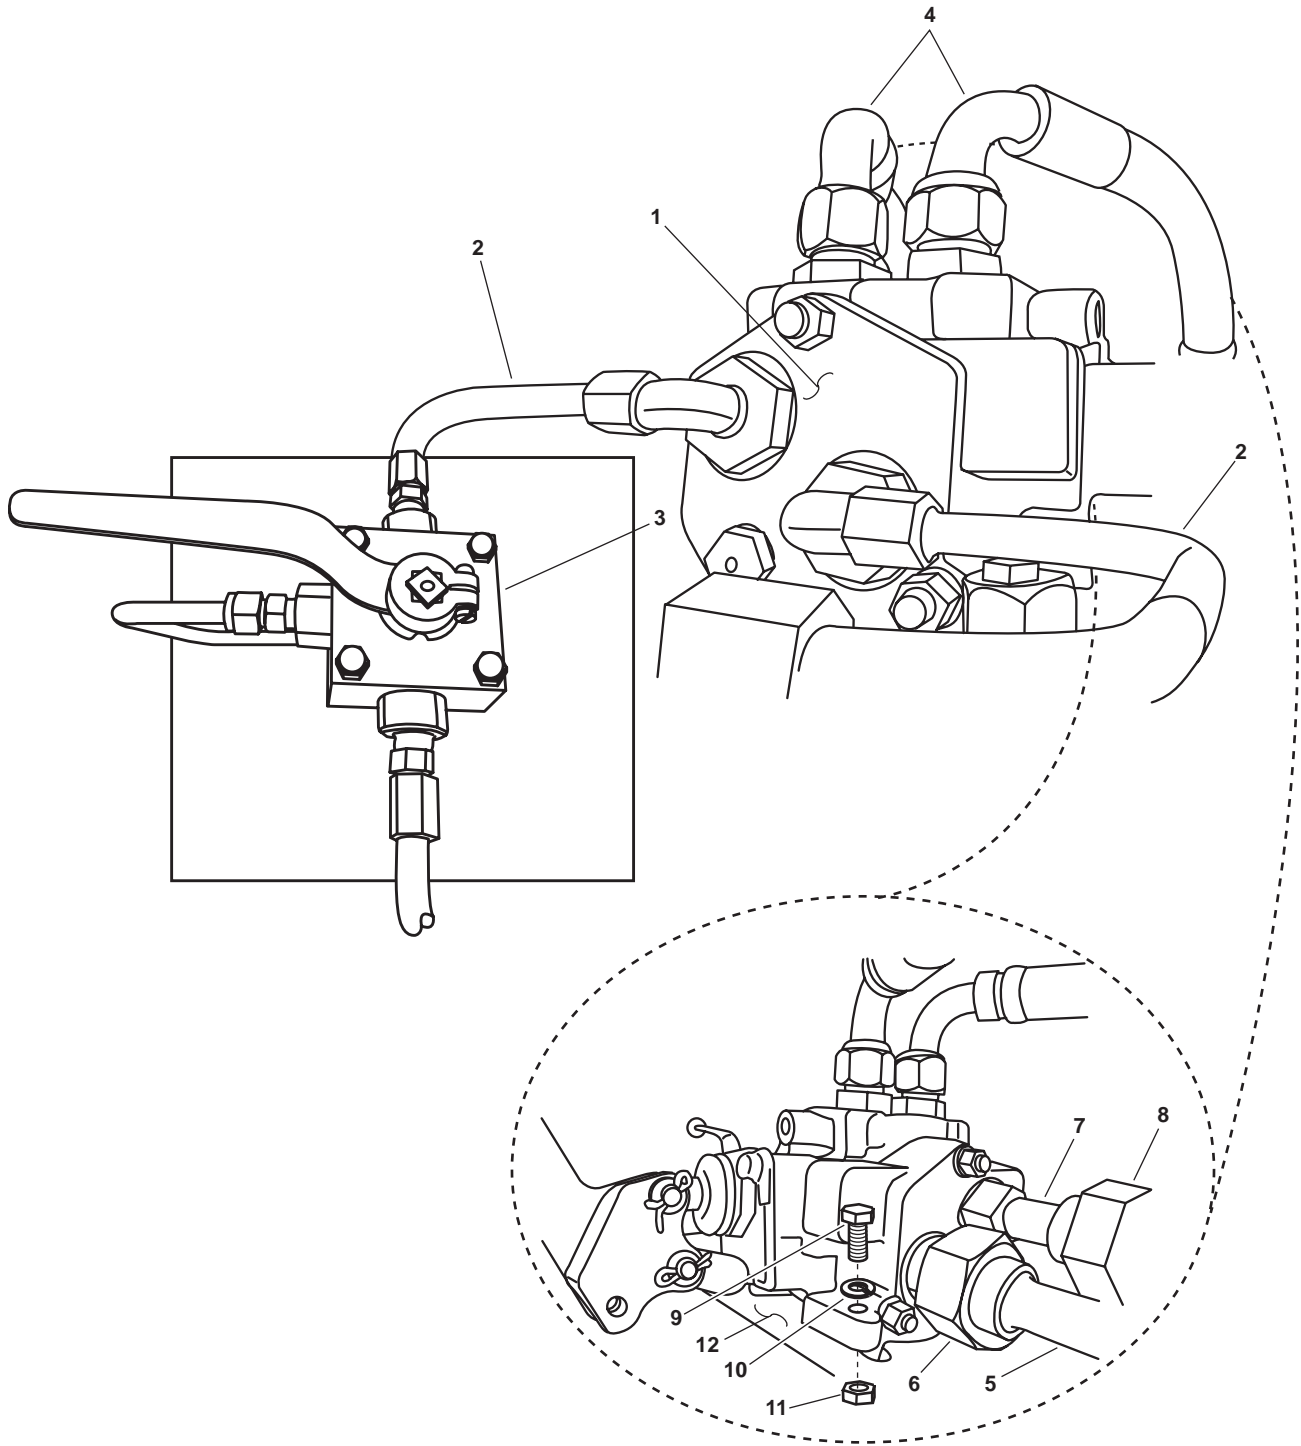

Figure 1. Hydraulic Control Assembly
1. Place a suitable drain pan under the hydraulic control valve assembly (figure 1, item 1).
2. Remove two sections of hydraulic tubing (figure 1, item 2) from the hydraulic control valve assembly (figure 1, item 1), and the 3-way ball valve (figure 1, item 3). Allow any hydraulic fluid to drain into the suitable drain pan.
3. Label and disconnect the two hydraulic hoses (figure 1, item 4) from the top of the hydraulic control valve assembly (figure 1, item 1). Drain any hydraulic fluid into the suitable drain pan.
4. Remove the hydraulic oil supply line (figure 1, item 5) from the hydraulic control valve assembly (figure 1, item 1) at hydraulic oil tubing coupling (figure 1, item 6). Drain any hydraulic fluid into the suitable drain pan.
5. Remove the hydraulic oil return line (figure 1, item 7) from the hydraulic control valve assembly (figure 1, item 1) at the hydraulic oil tubing coupling (figure 1, item 8). Drain any hydraulic fluid into the suitable drain pan.
6. Remove the four bolts (figure 1, item 9), the four lockwashers (figure 1, item 10), and the four nuts (figure 1, item 11) from the hydraulic control valve assembly (figure 1, item 1). Discard the lockwashers.
7. Remove the hydraulic control valve assembly (figure 1, item 1) from the hydraulic control valve mounting bracket (figure 1, item 12).
2. Install the hydraulic control valve assembly (figure 1, item 1) on the hydraulic control valve mounting bracket (figure 1, item 12).
3. Install the four bolts (figure 1, item 9), the four new lockwashers (figure 1, item 10), and the four nuts (figure 1, item 11).
4. Install the hydraulic oil return line (figure 1, item 7) on the hydraulic control valve assembly (figure 1, item 1) at the hydraulic oil tubing coupling (figure 1, item 8).
5. Install the hydraulic oil supply line (figure 1, item 5) on the hydraulic control valve assembly (figure 1, item 1) and tighten the hydraulic tubing coupling (figure 1, item 6).
6. Install the two hydraulic hoses (figure 1, item 4) to the top of the hydraulic control valve assembly (figure 1, item 1) using the labels from step 3 of Removal as a guide. Remove the labels.
7. Install the two sections of hydraulic tubing (figure 1, item 2) on the hydraulic control valve assembly (figure 1, item 1) and the 3-way ball valve (figure 1, item 3).